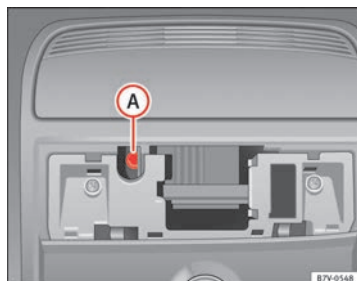

Fig. 196 Allen bolt to close the panoramic sliding sunroof
- Insert a standard 4 mm Allen key¹⁾ into the Allen bolt ⇒ Fig. 196 (A).